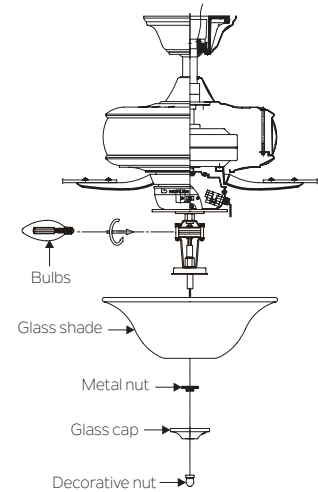

Fig. 18
**Step 2.** Remove the decorative nut, glass cap and metal nut from the light kit. Place glass shade over the light kit stem, secure with the metal nut (rubber side on the top), glass cap and decorative nut. Do not overtighten. (Fig. 18)